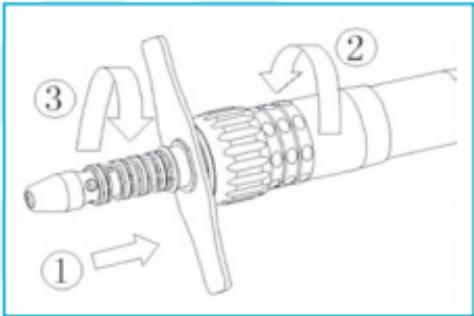

Fig. 6-4
- Screw the LED couplings onto the turbine hose (Fig.6-4①)
- Tighten the screw cap of the turbine hose with the wrench (delivered with the medical device) (Fig.6-4②③).